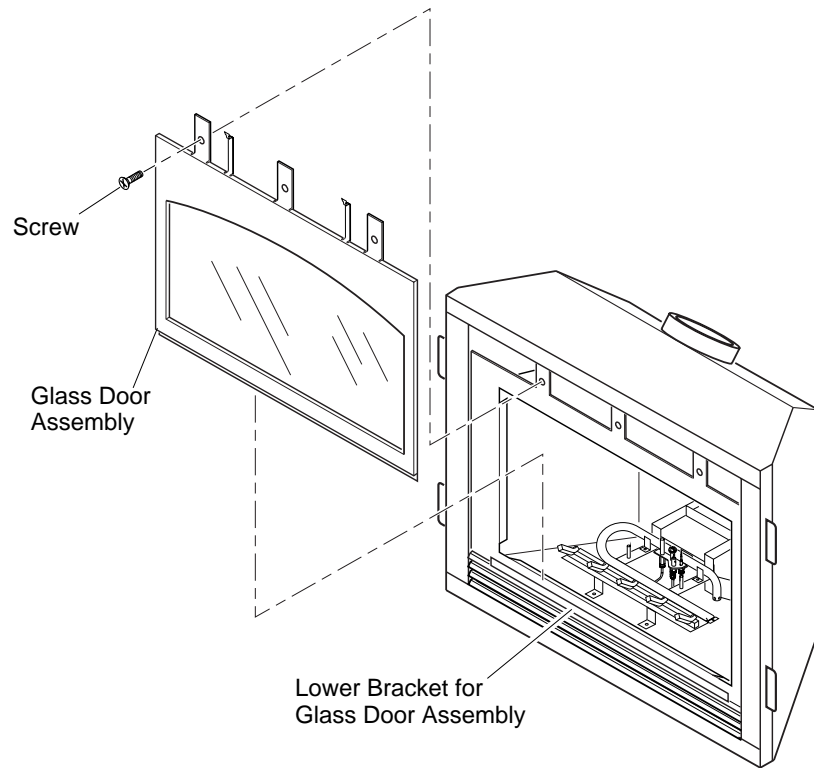

Figure 44 - Removing/Replacing Glass Door
3. Grasp door by both sides and ease it upward off of the lower bracket (see Figure 44).